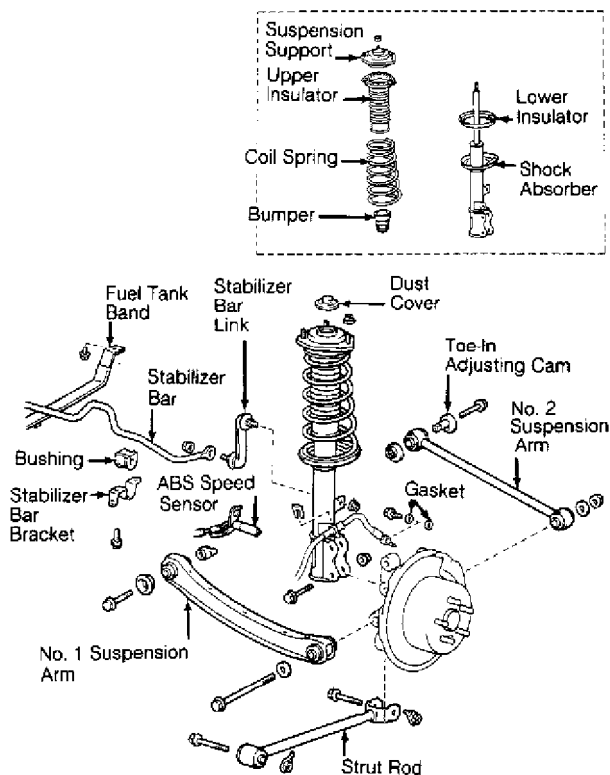

Fig. 5: Exploded View Of Rear Strut Assembly (ES250)
3) Loosen strut rod center nut (do not remove nut). Remove 3 suspension support retaining nuts. Lower rear axle carrier and remove lower shock absorber. Remove strut assembly. See Fig. 5. Remove drive axle shaft. See RWD Axle shafts article in DRIVE AXLES.